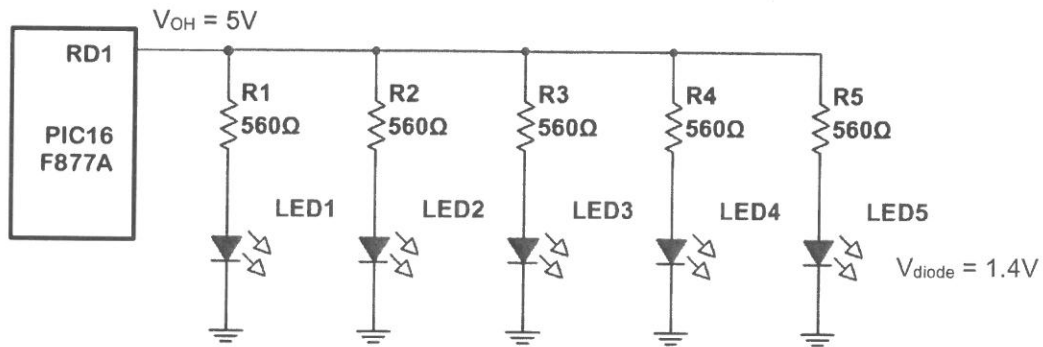

Figure 2(b)
- (b) Figure 2(b) shows output connection of PIC16F877A microcontroller driving 5 LEDs in parallel configuration. Analyze if the circuit is going to work when Port D, RD1 is outputting a High or Logic 1? Referring to the Electrical Characteristics of the microcontroller as shown in Table 2(b), justify your explanation with calculation whether Figure 2(b) configuration is going to work or not. If not, then provide a solution. (10 marks)